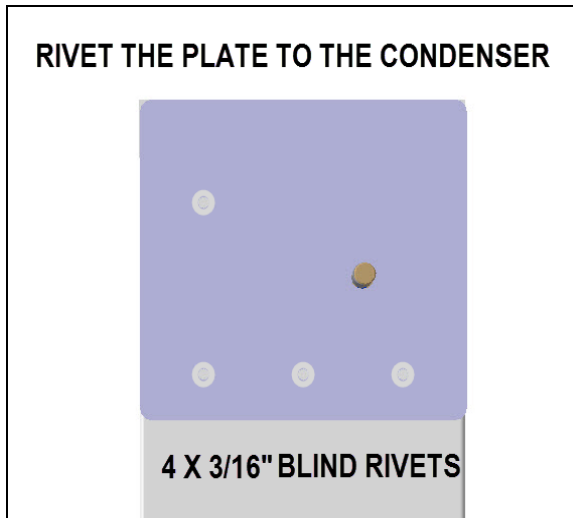

Fig.26
13. Rivet the plate in place using four blind 3/16" rivets and an appropriate rivet gun (Fig.26 & 27).